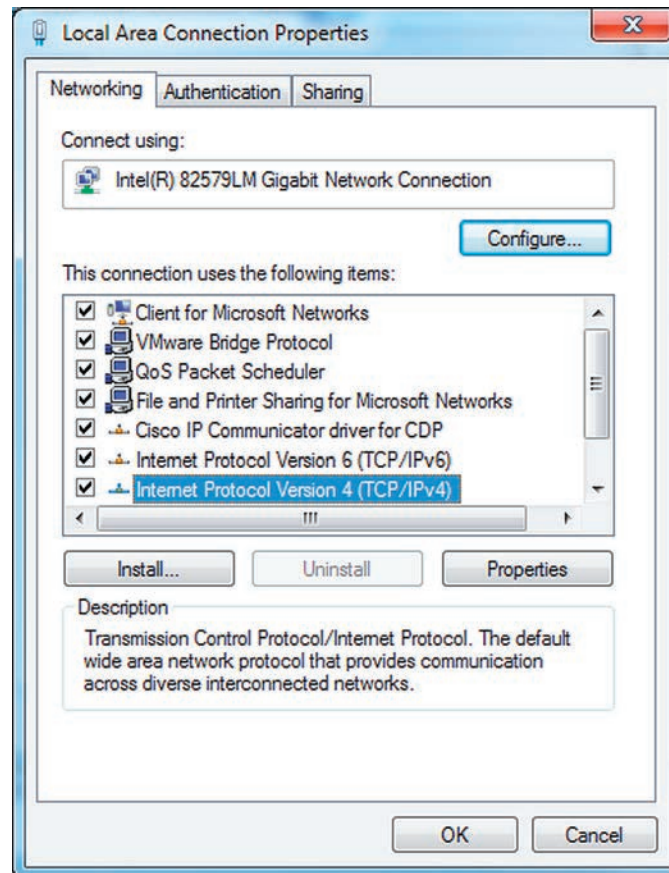

Figure 1. Local Area Connection Properties dialog box.
- STEP 5.** Click the Local Area Connection Properties dialog on Laptop #1 and click on the **Properties** button. Scroll and select the **Internet Protocol Version 4 (TCP/IPv4)** option. See Figure 1.